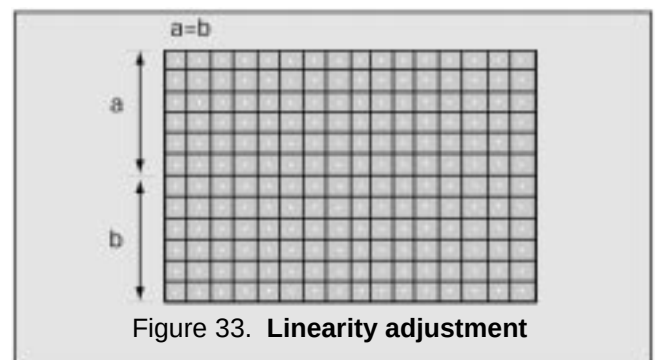

Figure 33. Linearity adjustment
1. Enter Service Mode, Adjust linearity data "D03" so that interval of "a" is same as "b" ($a=b$). (See Fig. 33)